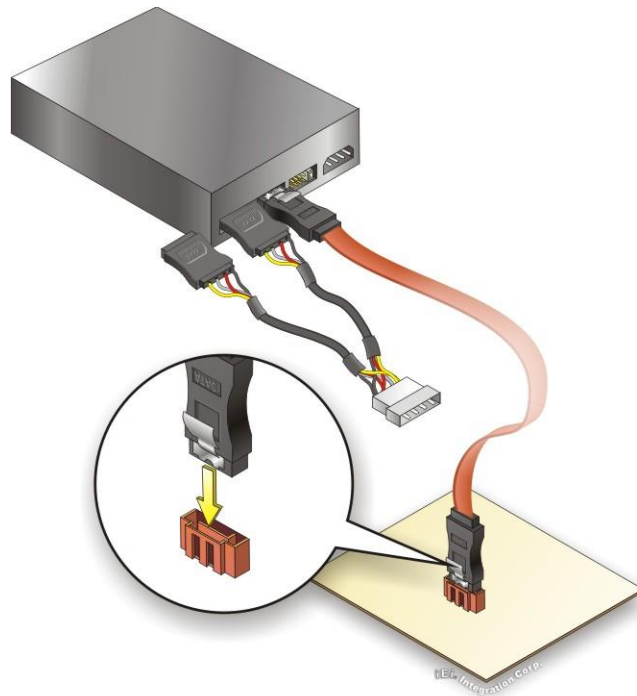

Figure 4-2: SATA Power Drive Connection
Step 3: **Connect the cable to the SATA disk.** Connect the connector on the other end of the cable to the connector at the back of the SATA drive. See **Figure 4-2**.
Step 4: **Connect the SATA power cable.** Connect the SATA power connector to the back of the SATA drive. See **Figure 4-2**.